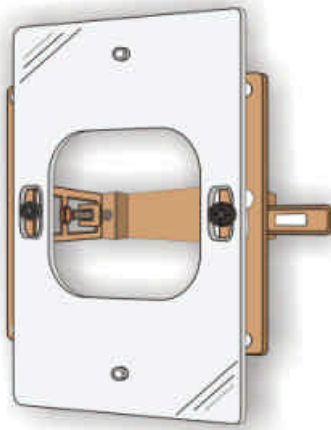

Figure 2.3 European Adapter Plate
4. If you are using a European outlet, insert the supplied adapter plate in place of the outlet you removed (Figure 2.3).